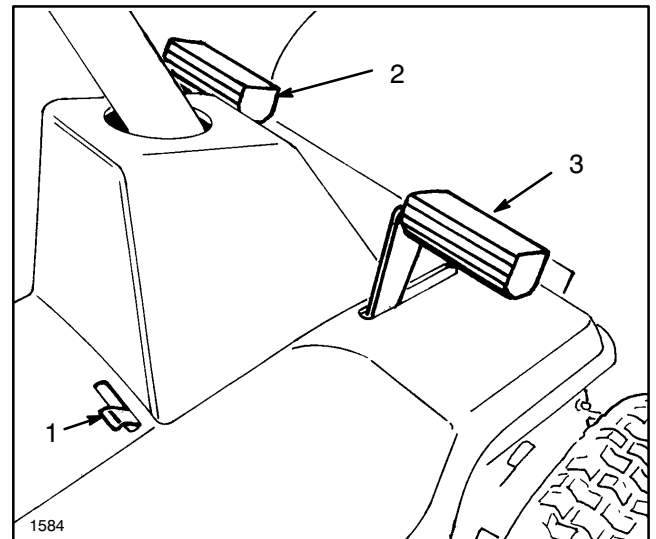

Figure 6
Clutch Pedal (Fig. 6)—Foot-operated clutch pedal is used in conjunction with gear shift. Depress clutch pedal fully when shifting gears. Depress clutch pedal whenever brake is used.
Brake Pedal (Fig. 6)—Foot-operated brake pedal must be depressed to slow down or stop the rider. When pedal is depressed, a caliper engages the brake disc on the side of the transmission. Always depress clutch pedal when using brake.
Parking Brake (Fig. 6)—Parking brake must be used in conjunction with brake pedal. When pedal is depressed and end of parking brake lever holds brake pedal in depressed position, a caliper engages the brake disc at side of transmission.
Ignition Switch (Fig. 6)—Switch has three positions: ON, OFF and START.
1. Engage the parking brake (Fig. 6): refer to using Parking Brake, page 14.
2. Move parking brake control to the left and release brake pedal until it contacts end of parking brake lever (Fig. 6).
3. To release the parking brake, depress brake pedal (Fig. 6), which will allow parking brake lever to return to its disengaged position. Then release brake pedal.